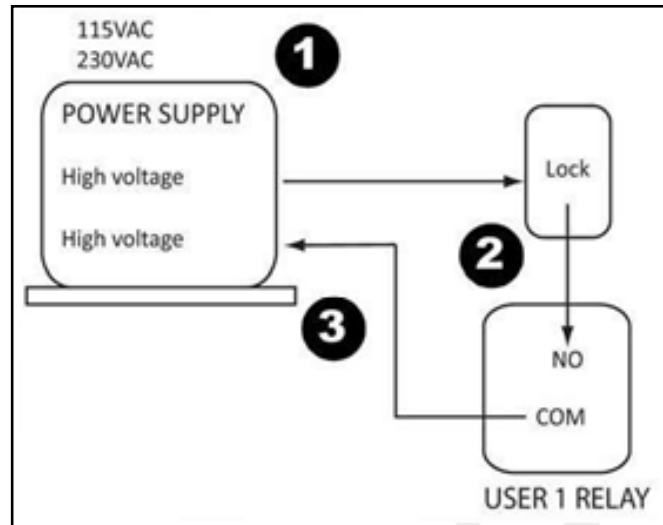

Figure 21. Lock on High Voltage Systems
1. Connect one lead of the power supply to one lead of the lock's coil. See Figure 21.